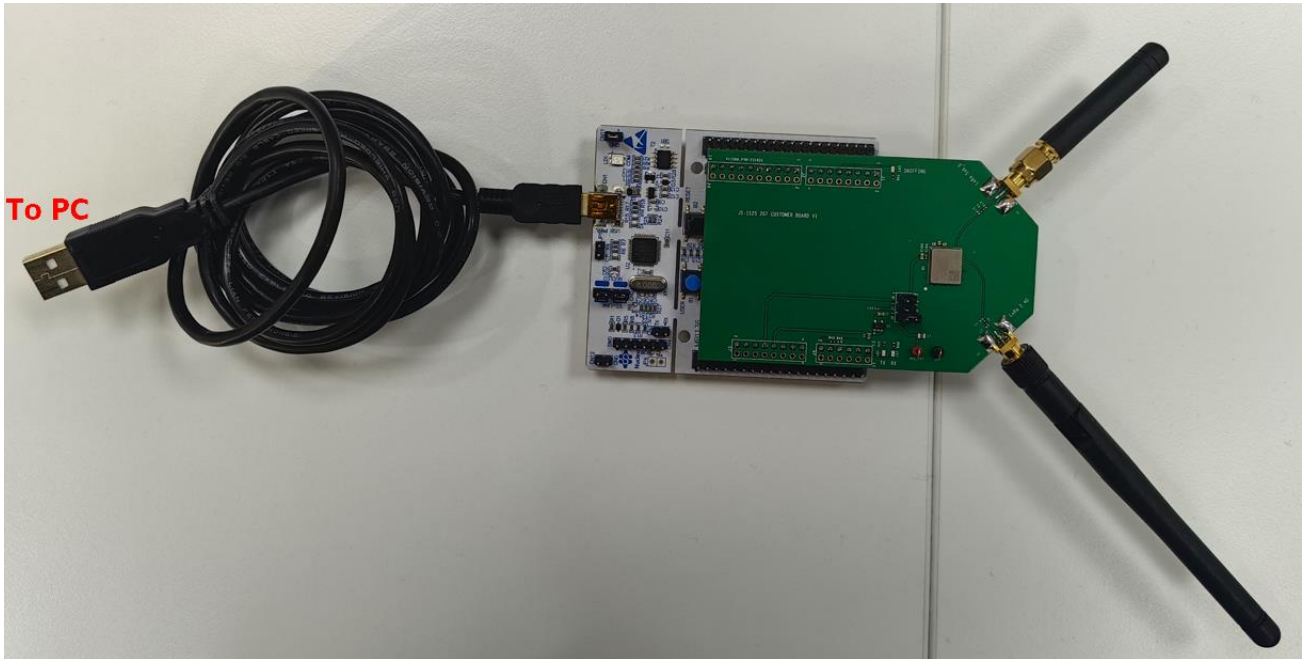

Figure 7: Assembly antennas and connect platform to PC
STEP2: Connect the NUCLEO-L476RG to PC by Mini USB interface cable and assembly the antennas on the EVB as showed in figure 7.